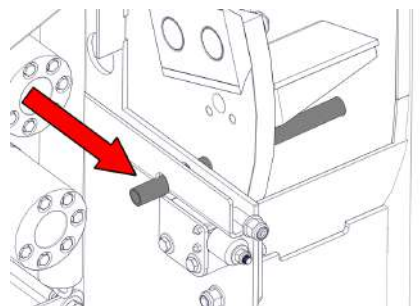

Figure 26 - Locking Bar Inserted
5. Insert locking bar through rotor housing and rotor (Figure 26).